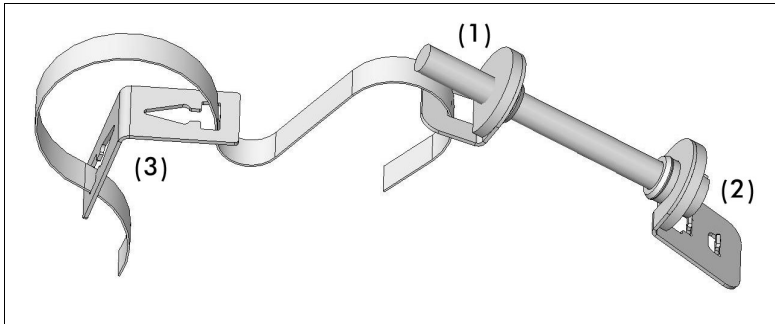

Fig. 7.6: Threading the tension strap through the KATRONIC clasp and the spring
- Pull approx. 2 cm of the tension strap through the slot of part (1) of the clasp (Fig. 7.6) and bend it back to fasten the strap to the clasp.
- Thread the tension strap through the metal spring (3) as indicated in Fig. 7.6.